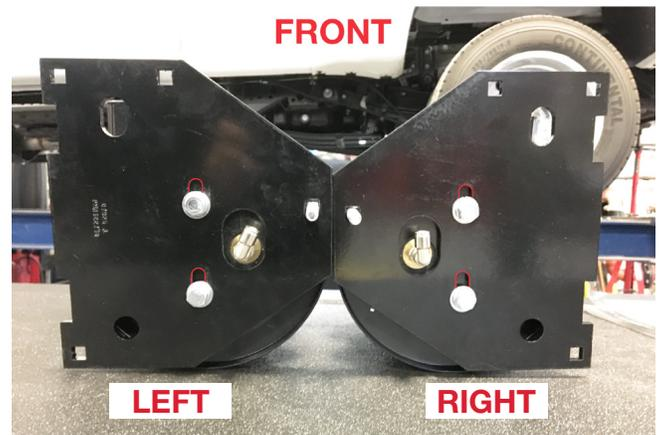

Fig. 8
2. Insert 3/8"-16 x 1 1/4" carriage bolts (N) into the square holes on the brackets, then secure the upper air spring bracket (E) onto the top of the air springs using 3/8"-24 x 7/8" hex bolts (X), 3/8" lock washers (Y) and 3/8" flat washers (S). At this stage, the air spring assemblies are left- and right-hand units. Push the brackets as far forward as possible (Fig. 8). Torque the hardware to no more than 20 lb.-ft. (27Nm).
6. When installing the lower brackets onto the air spring assemblies already assembled (step 2, Fig. 8), if you have a sway bar-equipped vehicle, make sure the lower bracket assembly you assembled for the passenger's (right) side is assembled on the passenger's (right) side air spring assembly. Using the holes specified in step 5, for vehicles not equipped with sway bars, it will not matter which assembly the lower bracket fits on.